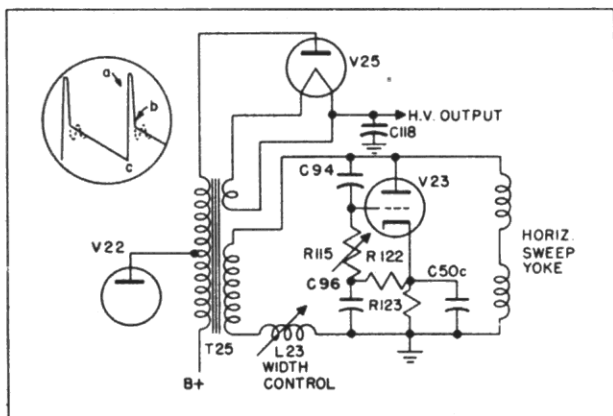

Fig. 7. Horizontal Sweep Output
**6. HORIZONTAL SWEEP OUTPUT (SEE FIGURE 7)**—The horizontal sawtooth voltage generated by the multivibrator, V21, is shaped and then amplified by a Type 6BG6G tube, V22. The output of this tube is coupled to the horizontal deflection coils through an impedance-matching transformer, T25. An oscillatory voltage, as shown in the dotted line in the waveshape at the upper left of Figure 7, which results from the rapid retrace in the transformer T25, is removed by the damping tube, V23. This tube is a dual triode, Type 6AS7G, and by its use the transient may be dampened, linearity controlled, and the positive overshoot voltage retained for use in the high voltage supply. The linearity of the horizontal trace is controlled by varying the voltage waveshape applied to the grid of V23 by potentiometer, R115. The horizontal size is controlled by the adjustable iron core inductance, L23, which is in series with the output to the yoke.
**8. HIGH VOLTAGE SUPPLY (SEE FIGURE 7)**—The high voltage is derived by making use of the inductive "kick" voltage produced during retrace in the horizontal output transformer. This "kick" voltage is shown in the waveshape shown as "c to b" in Figure 7. This voltage is generated in the primary winding and is further increased by an additional winding added to the transformer which connects to the rectifier tube plate of V25. The rectifier tube, V25, is a Type 8016 which derives its filament voltage from the horizontal sweep transformer T25 by a single turn around the transformer. Because of the high frequency (15,750 cps) which is rectified, a 500 mmf. capacitor is more than sufficient for filtering purposes.